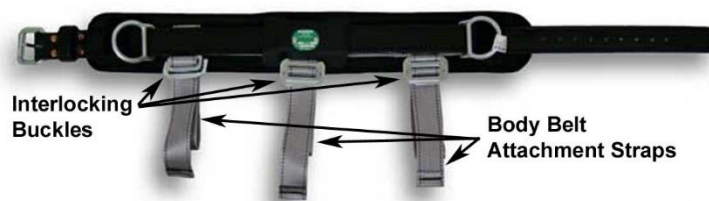

Fig. 2
- Disconnect the three Body Belt Attachment Strap Interlocking buckles of the Gut Strap (turn the smaller of the two buckles on an angle and slide it through the slot of the larger buckle towards the inside (Fig 2).